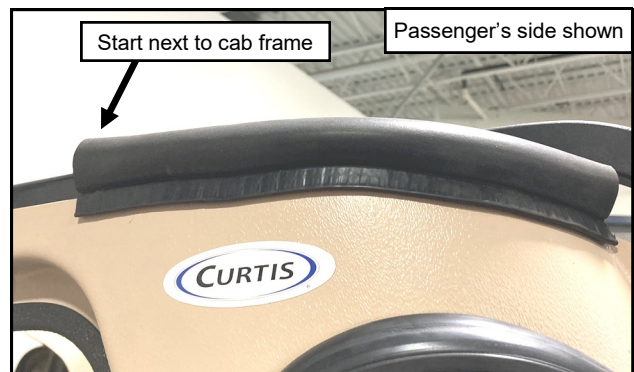

Fig. 4.2 (Front Cab Rubber)
- 4.2 Remove the existing side bulb rubber from the top of the front cab plastic panels and install the supplied 1" straight bulb rubber in its place. Start the rubber up against the front of the side frame upper bracket and press onto the plastic panel heading forward. See Figure 4.2.